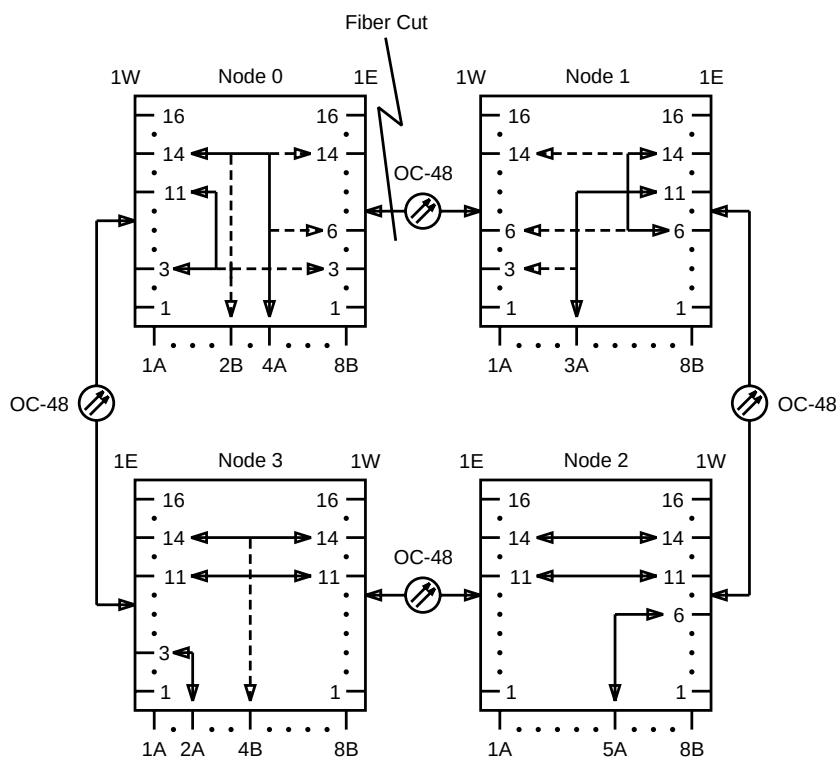

Figure 9-7. Bidirectional Line-Switched 2-Fiber Ring (Single Failure)
Figure 9-7 shows a 2-fiber bidirectional, line-switched ring when a fiber cut occurs between two nodes. Automatic 2-fiber ring protection switching occurs in response to a signal fail or signal degrade condition on an incoming OC-48 high-speed signal.
- The LNCTL (4 MEG) circuit pack transmits a request to preempt any extra traffic to the board controllers of the transmission circuit packs. After extra traffic is preempted, through cross-connections are established for the protection STS-3 tributaries. Through cross-connections are established using the C bus between the west OC48 RCVR (A/D) and east OC48 TRMTR (A/D) circuit packs and the east OC48 RCVR (A/D) and west OC48 TRMTR (A/D) circuit packs. Figure 9-7 shows that extra traffic has been preempted and through cross-connections have been established for the protection STS-3 tributaries at nodes 2 and 3. The add/drop cross-connections to the service STS-3 tributaries are not affected.
- The low-speed interface circuit packs that add/drop traffic to/from the failure, and the east OC48 TRMTR (A/D) and OC48 RCVR (A/D) circuit packs switch traffic to the protection STS-3 tributaries of OC-48 high-speed line 1E. An add/drop cross-connection is established between the affected low-speed interface slot and the protection STS-3 tributaries of OC-48 high-speed line 1E. The add/drop cross-connection is established using the A bus between the affected low-speed interface circuit pack and the east OC48 TRMTR (A/D) and OC48 RCVR (A/D) circuit packs. Figure 9-7 shows low-speed interface slot 3A cross-connected to the protection STS-3 tributary 11 of OC-48 high-speed line 1E.
- The east OC48 TRMTR (A/D) and OC48 RCVR (A/D) circuit packs loop back all the through STS-3 tributaries transmitted toward the failure from the service STS-3 tributaries to the protection STS-3 tributaries of OC-48 high-speed line 1E. The loopback is established using the B bus between the east OC48 TRMTR (A/D) and OC48 RCVR (A/D) circuit packs. Figure 9-7 shows extra traffic is preempted and service STS-3 tributary 6 of OC-48 high-speed line 1E is looped back to protection STS-3 tributary 14. (Table 9-4 shows the mapping between the service STS-3 tributaries and their protection STS-3 tributaries.)
- The low-speed interface circuit packs that add/drop traffic to/from the failure, and the west OC48 TRMTR (A/D) and OC48 RCVR (A/D) circuit packs switch traffic to the protection STS-3 tributaries of OC-48 high-speed line 1W. An add/drop cross-connection is established between the affected low-speed interface slot and the protection STS-3 tributaries of OC-48 high-speed line 1W. The add/drop cross-connection is established using the A bus between the affected low-speed interface circuit pack and the west OC48 TRMTR (A/D) and OC48 RCVR (A/D) circuit packs. Figure 9-7 shows low-speed interface slot 4A cross-connected to the protection STS-3 tributary 14 of OC-48 high-speed line 1E.
- The west OC48 TRMTR (A/D) and OC48 RCVR (A/D) circuit packs loop back all the through STS-3 tributaries transmitted toward the failure from the service STS-3 tributaries to the protection STS-3 tributaries of OC-48 high-speed line 1W. The loopback is established using the B bus between the west OC48 TRMTR (A/D) and OC48 RCVR (A/D) circuit packs. Figure 9-7 shows extra traffic is preempted and service STS-3 tributary 3 of OC-48 high-speed line 1W is looped back to protection STS-3 tributary 11. (Table 9-4 shows the mapping between the service STS-3 tributaries and their protection STS-3 tributaries.)